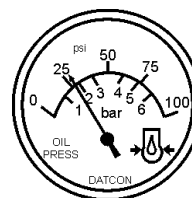

Figure 59. Oil Pressure Gauge
16. The engine oil pressure gauge (Figure 59) will indicate the oil pressure (kg/ cm²) of the engine. Under normal operating conditions the oil pressure is approximately 25 psi.